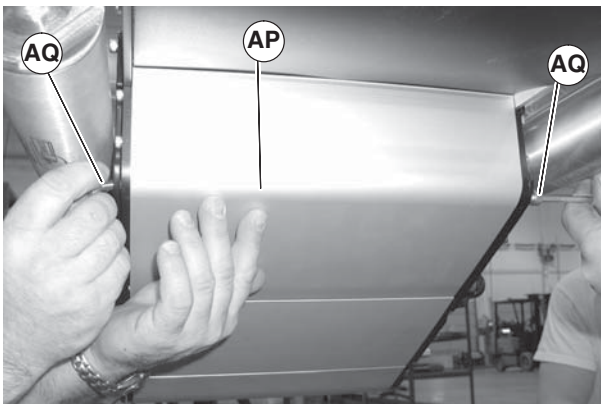

Figure 20
3. Temporarily support idler guard assembly (Figure 20, item AP). Remove screws (AQ).